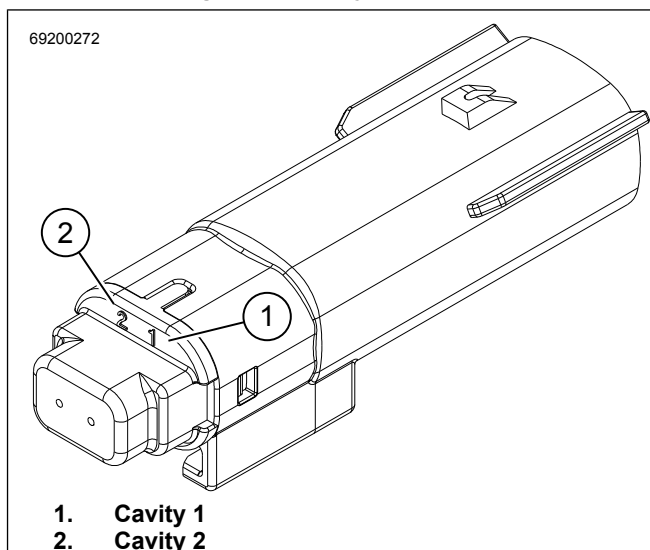

Figure 5. 2-Pin Connector 69200272
3. See Figure 5. Install white/pink terminal pins into cavity 1 of connector [69200272].